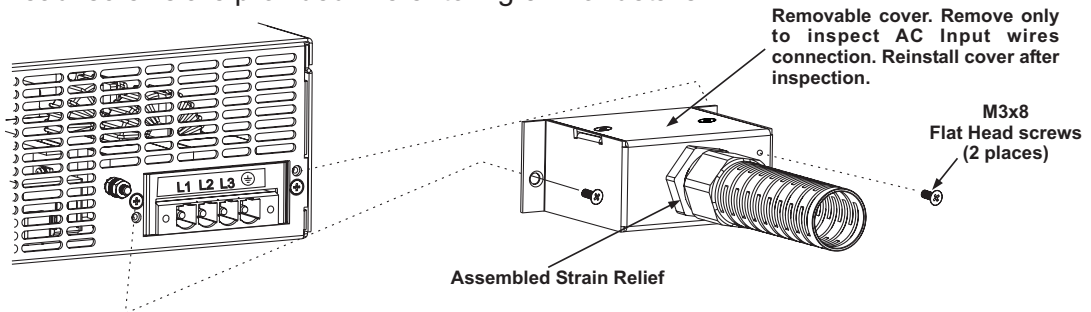

Fig.3-4: AC input cover and strain relief
3. Route the wires inside the cover to prevent pinching. Fasten the cover to the unit using the M3x8 Flat Head screws are provided. Refer to Fig.3-4 for details.